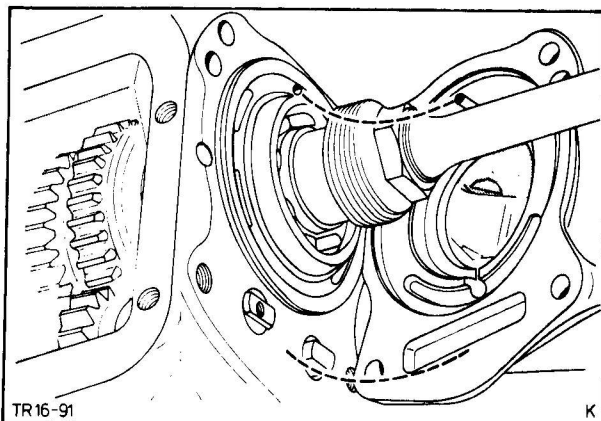

Fig. 96. Line up bearing retainer hole with guide pin
44. Line up bearing retainer hole with the guide pin in the extension housing, Fig. 96.